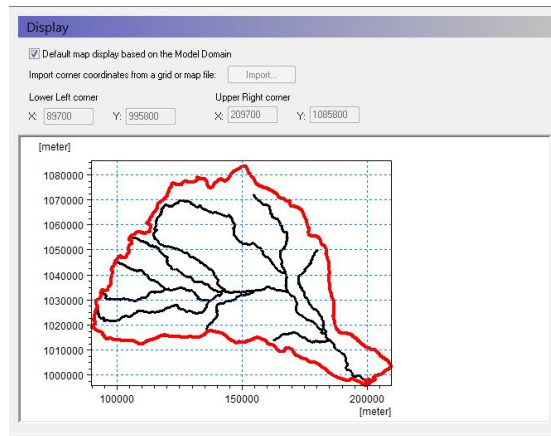

Figure 118: Map display with a catchment and river network
- Go back to the “Display node” to see the overlays. You may try to change the appearance of the spatial overlays (e.g. colours, lines). It could look something like Figure 118.